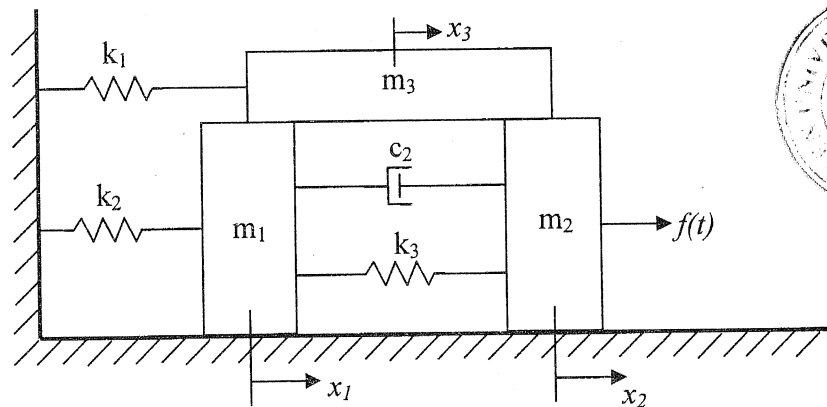

Figure 05
- (7.2) Represent the translation mechanical system given in figure 05, in state space form. You may take $f(t)$ and x_3 to be the input and output respectively.
In figure 05,